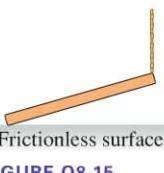

FIGURE Q8.15
- The uniform rod in Figure Q8.15 has a weight of 14.0 N. What is the magnitude of the normal force exerted on the rod by the surface?